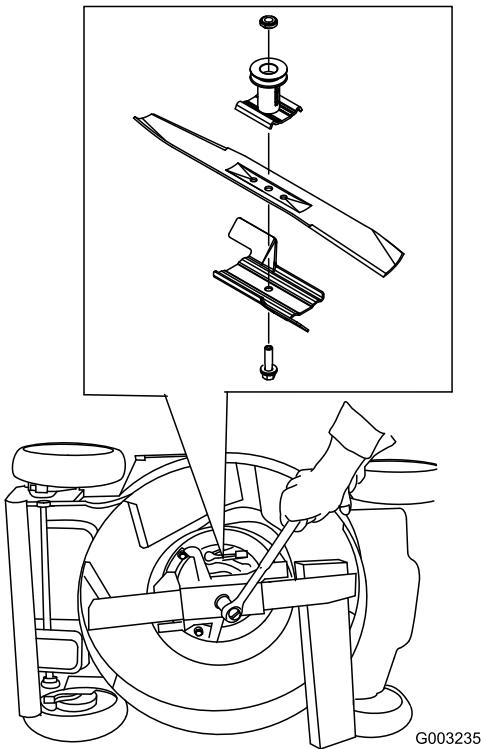

Figure 33
- Use a block a wood to hold the blade steady (Figure 33).